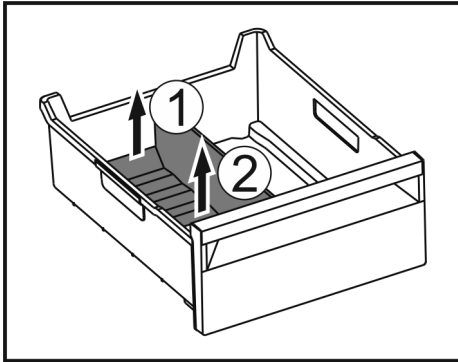

Fig. 143
- Lift the rear part of the ice compartment divider. Fig. 143 (1)
- Remove the ice compartment divider upwards. Fig. 143 (2)